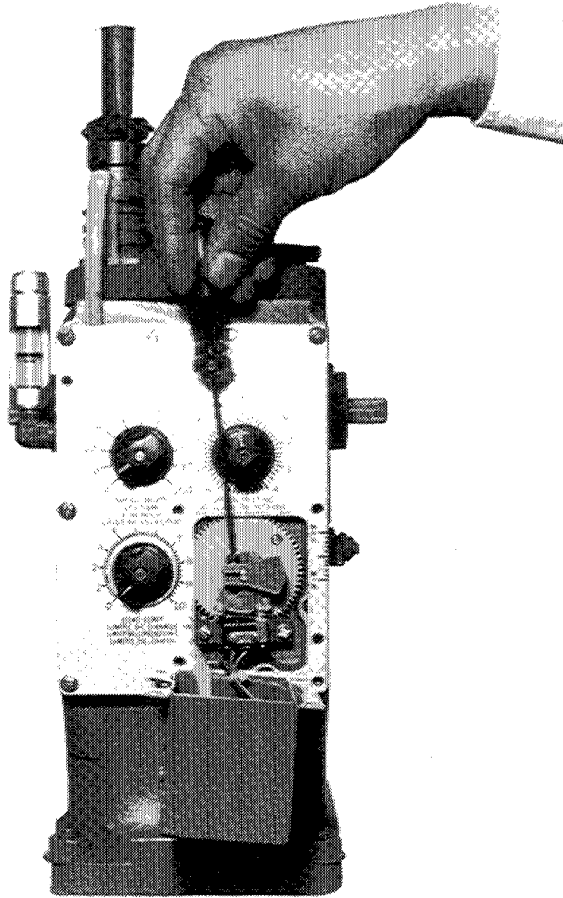

Figure 2. Adjusting the Cam Set Screw
2. Remove the limit switch cover from the governor dial plate (see Figure 2).
- B. Loosen the cam set screw (as shown in Figure 2) using a standard Allen wrench. Move the minimum limit cam until it just activates the switch. Tighten the cam set screw.